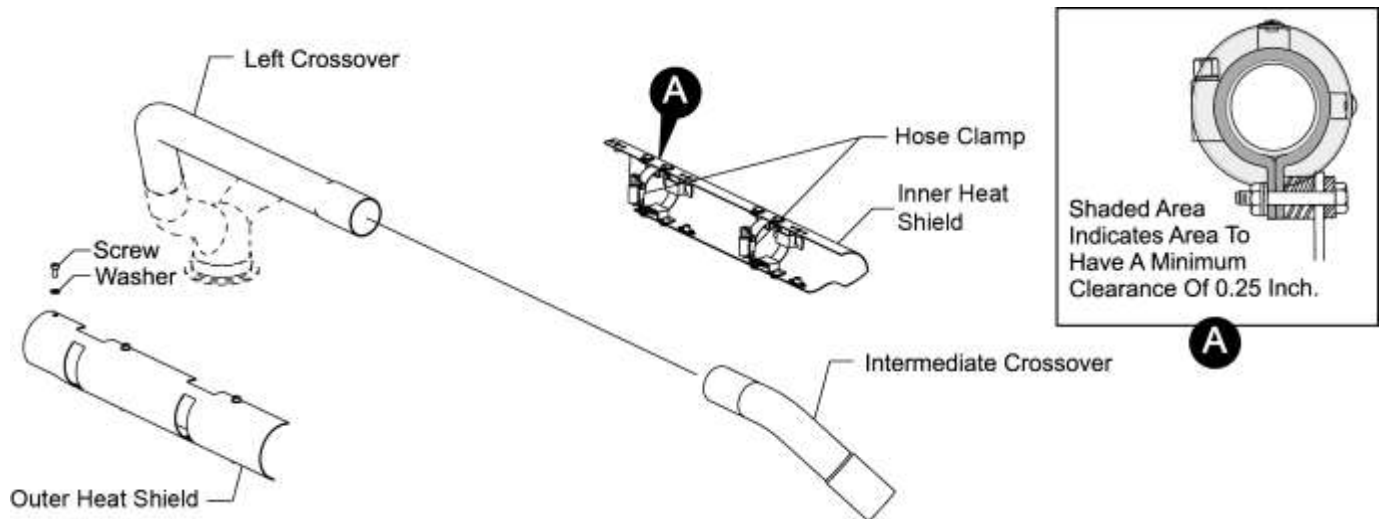

Figure 1
- A. Loosen both of the hose clamps (Figure 1).